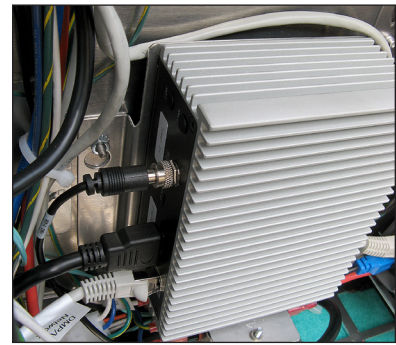

Figure 32: DMP-8000 Jacks and Bracket
The Digital Media Processor (DMP) receives the content from the Internet and sends it to the PLRs within the display and to the modules. All of the connections for the DMP are located on the bottom of the unit. Refer to **Figure 32**.
2. Disconnect the HDMI cable from the DMP-8000. Refer to **Figure 32**.